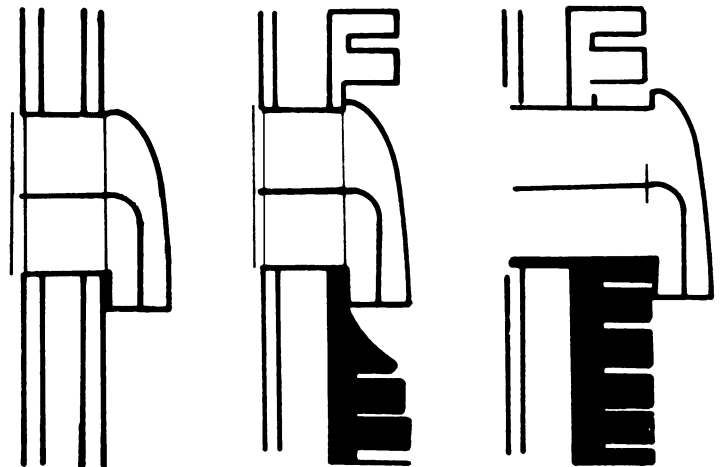

Figure 6
4. Now work from the outside. Using hole as a center point, draw a circle on outside wall 9 $\frac{1}{8}$ " in diameter. Saw opening. In case of brick or stone, use hammer and chisel to make opening. (See Figure 6.)